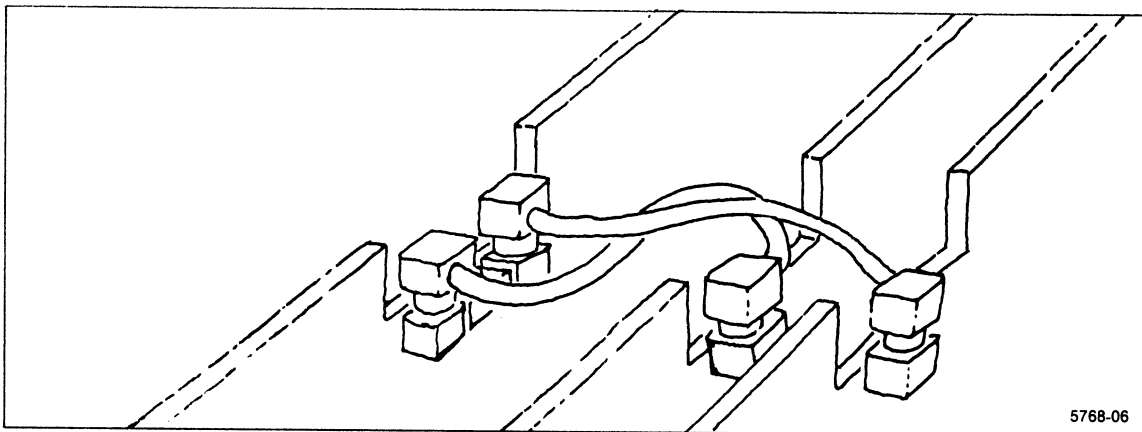

Figure B-6. Trigger cable connections between Master and Standard Interface cards.
6. Each 91HSE8 module is shipped with a short trigger cable (p/n 175-6425-00). Install this cable from the SMB connector on the top of a Standard Interface card to one of the connectors on the top of the Master Interface card. Repeat for each 91HSE8 module. Trigger cables can be connected to any one of the three jacks on the top of the Master Interface board. Refer to Figure B-6.